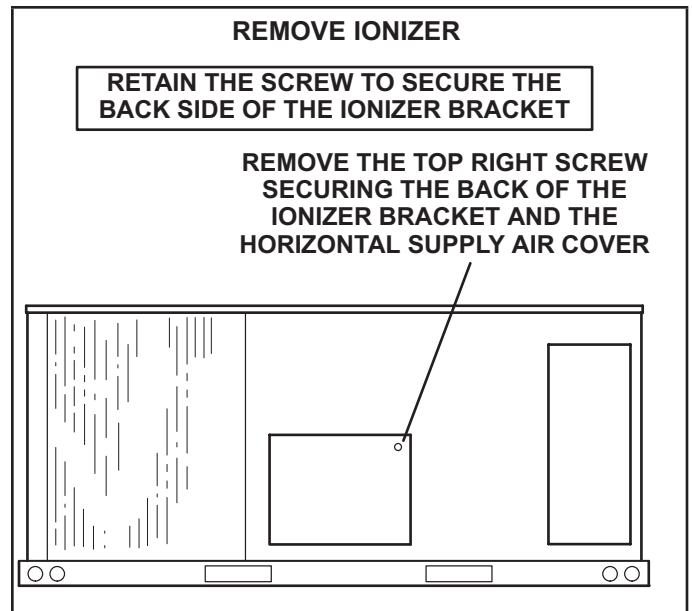

FIGURE 33
- 1 - On the back side of the unit, remove the screw securing the back of the ionizer bracket. See FIGURE 33. Retain the screw to secure the back side of the ionizer bracket.